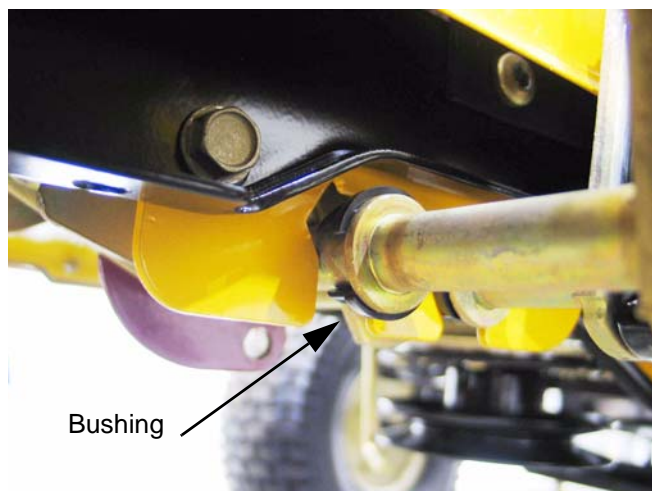

Figure 31.18
31.18. Slide the pedal shaft outboard far enough to create clearance to remove the outer pedal shaft bushing, and remove the bushing. See Figure 31.18.